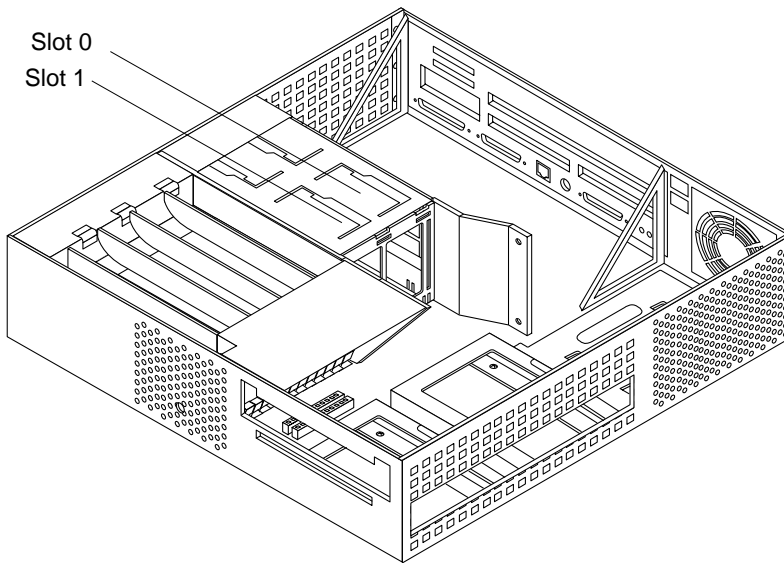

FIGURE 3-1 UltraSPARC Module Locations and Shroud Assembly Processor Area
- 1. Grip the sides of the shroud-assembly processor area (see FIGURE 3-1).**